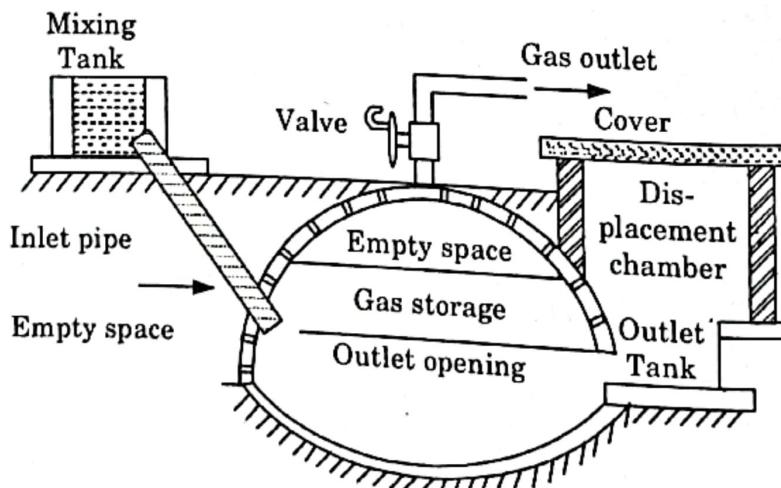

Fig. 5.4.1.
2. Deenbandhu plants are made entirely of brick masonry work with a spherical shaped gas holder at the top and a concave bottom as shown in Fig. 5.4.1.